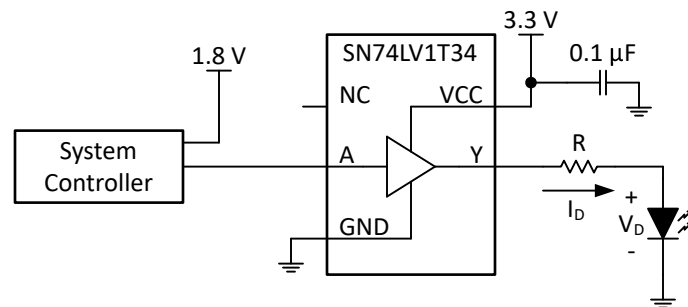

图 9-1. Typical Application Block Diagram
图 9-1 shows how the SN74LV1T34-Q1 is used to up-translate a 1.8-V signal to 3.3 V to drive an LED in this application. The SN74LV1T34-Q1 does not limit the output current, so an added output resistor is used to provide the appropriate current limiting. The resistor value (R) should be determined by the LED's forward voltage (V_D) and the desired forward current through the LED (I_D) using this equation: $R = (V_{CC} - V_D) / I_D$.